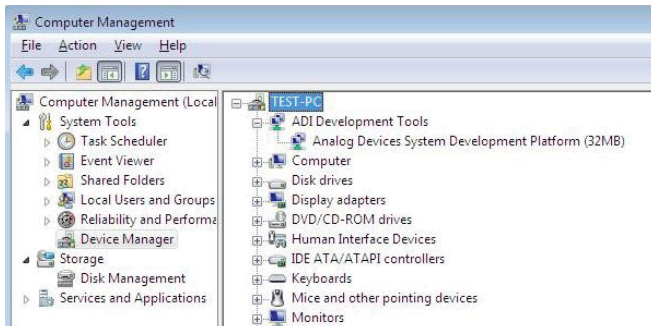

Figure 12. Device Manager, Checking the Board Connected to the PC Correctly
- Access the **Device Manager** by right clicking **My Computer**, then **Manage**. A dialog box appears asking for permission to allow the program to make changes to the PC. Click **Yes**. The **Computer Management** box appears. Click **Device Manager** from the list of **System Tools** (see Figure 12).